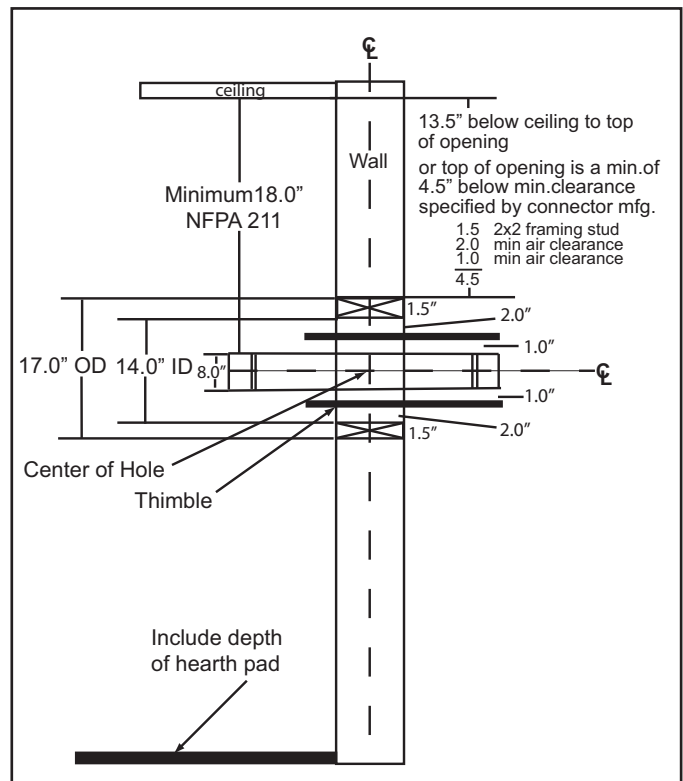

Figure 15.1
- Top of wall opening is a minimum of 13-1/2 inches (343mm) from ceiling or 4-1/2 inches (114mm) below minimum clearance specified by chimney connector manufacturer. NFPA 211 minimum vertical clearance of 18 inches (457mm) from chimney connector and ceiling or minimum recommended by chimney connector manufacturer. **Figure 15.1.**
1. Open inside wall at proper height for the chimney connector to enter the masonry chimney. **Figure 15.1**
3. Construct a 17 inch x 17 inch (432mm x 432mm) outside dimension frame from 2 x 2 framing lumber to fit into wall opening. Inside opening of frame should be no less than 14 inch x 14 inch (356mm x 356mm). **Figure 15.1.**